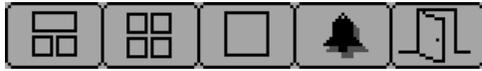

Figure 7.3.1: Main key Menu
- ▶ The use of 'soft' keys vastly simplifies the Deutz Display operator interface by ensuring the user is only presented with active keys that are appropriate to the current function. This is achieved by using the LCD to display icons that represent the current function of each key. Positioning the icons above the appropriate key allows each key's function to change whilst ensuring that the operator is always presented with a clear and unambiguous understanding of what each key-press will do (see figure 7.3.1).